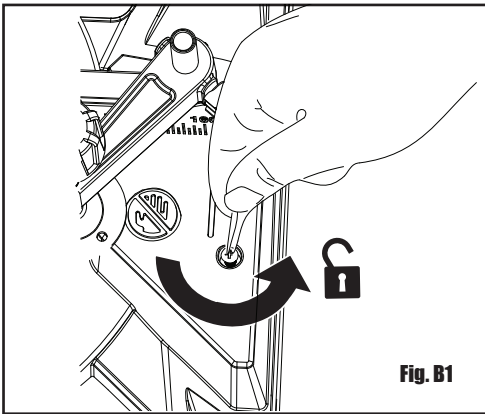

Fig. B1
### 2. SIDE TABLE EXTENSIONS (SEE FIG. B1-B4)
- 1) Loosen the screw on the corner of the base using a screwdriver. (See Fig. B1)